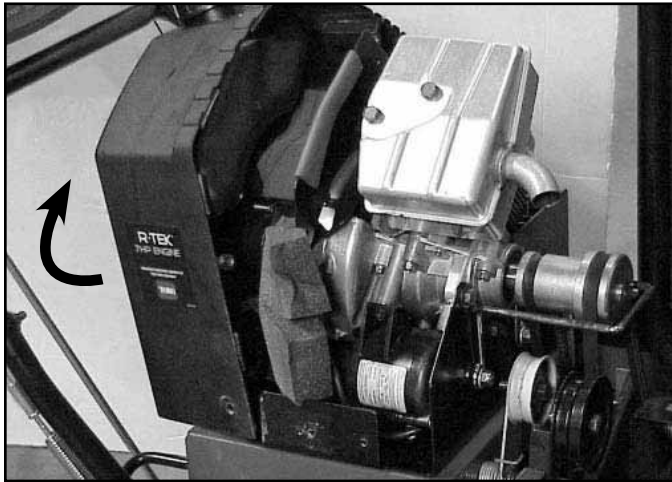

Fig 004
3. Pull the front shroud forward and up to remove. Slide the rear cover to the rear and rotate it clockwise to slip over the electric starter button and extension cord plug located in the left rear corner (Fig. 004).